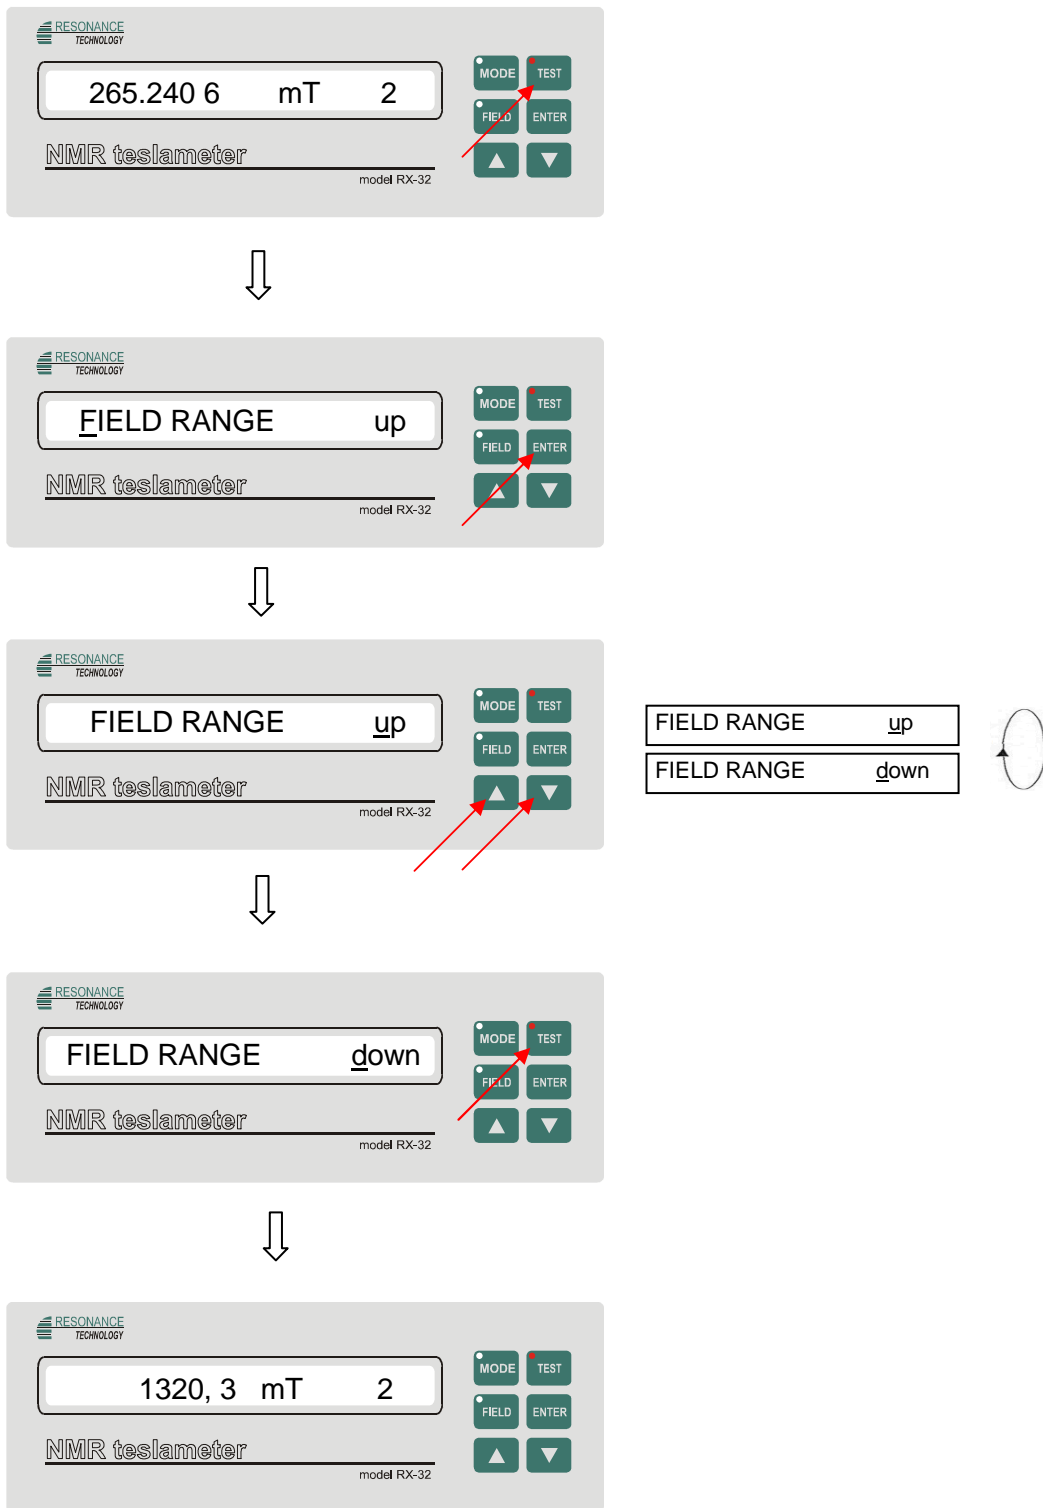

FIGURE 3.20 Field range option
- 2) Follow the steps shown in Fig. 3.20. By selecting *DOWN* you can inspect the lower end of the span and *UP* to inspect the upper end of the span.